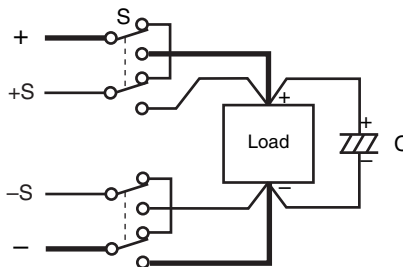

Fig. 2-16 On/off using the mechanical switch
- **To turn on/off the power supplied to a load using a mechanical switch, provide additional switches between the sensing cables as shown in Fig. 2-16 and turn on/off the power and remote sensing cables simultaneously. Be sure to turn off the OUTPUT switch or POWER switch before turning on/off the mechanical switch.**
If you are using a mechanical switch that is inserted between the PWR and the load to turn on/off the connection between them, insert a switch also in the sensing cable as shown in Fig. 2-16 and turn on/off the load wire and the sensing cable simultaneously. Be sure to turn off the OUTPUT switch or POWER switch before turning on/off the mechanical switch.